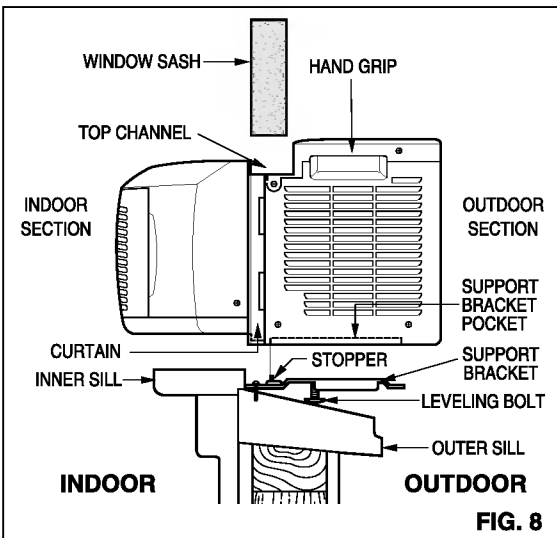

FIG. 8
- Make sure that support bracket is inserted in the pocket under base fan, and that curtain frame guide is stopped by stopper on the support bracket as shown in FIG.8.